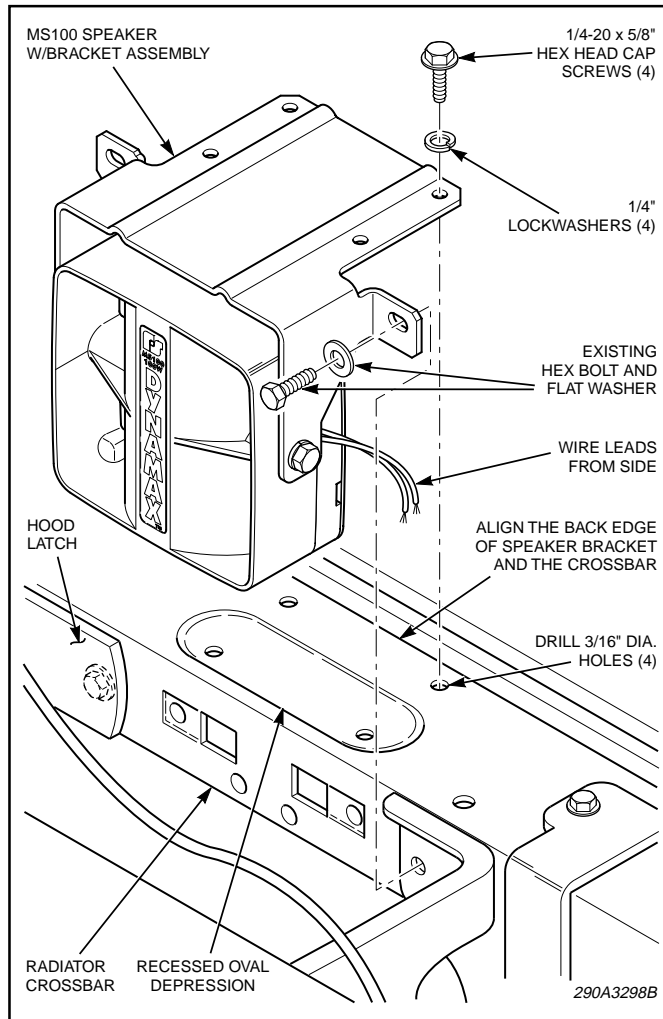

Figure 3.
4. See figure 3. Remove and retain the screw on the right side of the hood latch mechanism, and the screw which secures the vertical
7. To complete the mounting, secure the speaker/bracket in position using the 1/4" x 5/8" thread-forming screws and split lockwashers. See figure 3.